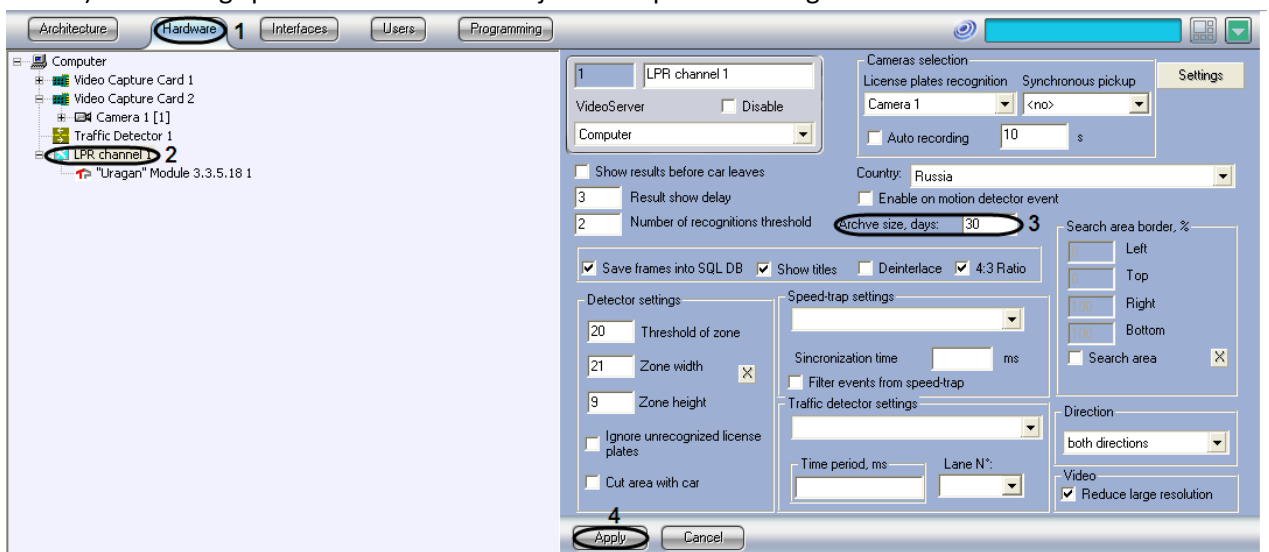

Fig. 7.2-18 Setting the Archive depth in DB
2. In the object tree of the Hardware tab, select the LPR channel, corresponding to the activated program module (see. «Program module activation, used for Plates identification», Fig. 7.2-18, 2). The settings panel of the selected object will open on the right side of the window.